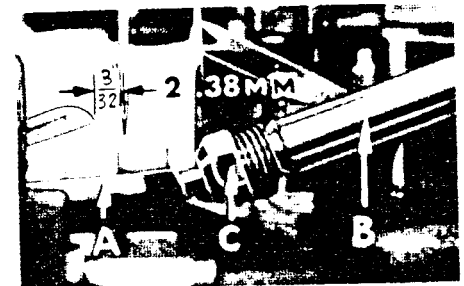
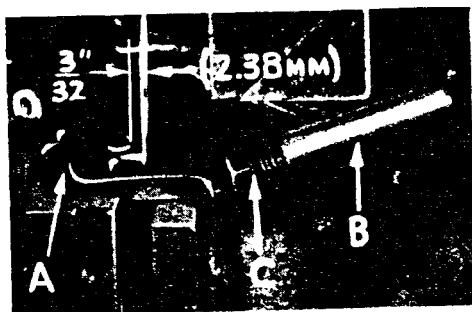

Fig. 6
Fig. 6A
At this point, insert lower looper (A, Fig. 6) on 695B012, 030 and 051 or lower spreader (A, Fig. 6A) on 695B030 into bar (B). With lower looper or spreader at left end of its stroke, set looper or spreader point  $3/32$  inch (2.38 mm) from centerline of needle (Fig. 6 or 6A) using looper gauge No. 21225-3/32. Do not have lower looper or spreader deflecting needle. Tighten nut (C). Now assemble differential (front) feed dog.